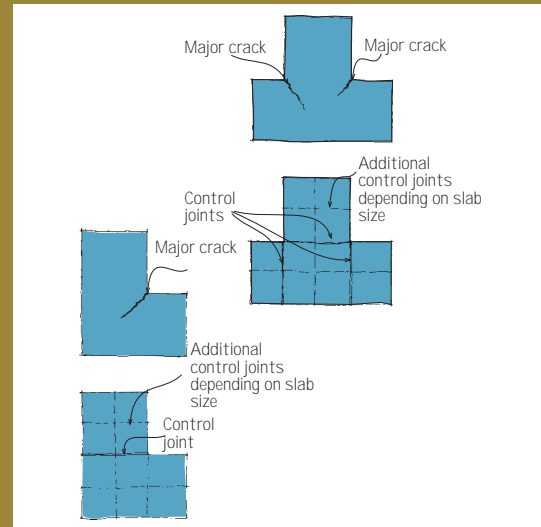

Figure 5: Positioning of crack control joints
- When planning the joint layout, first look for internal corners. These increase the stress in the slab, and are the most common position that cracks propagate from. It is almost possible to provide a guarantee that a crack will form at this location, so you ignore them at your peril (see Figure 5).